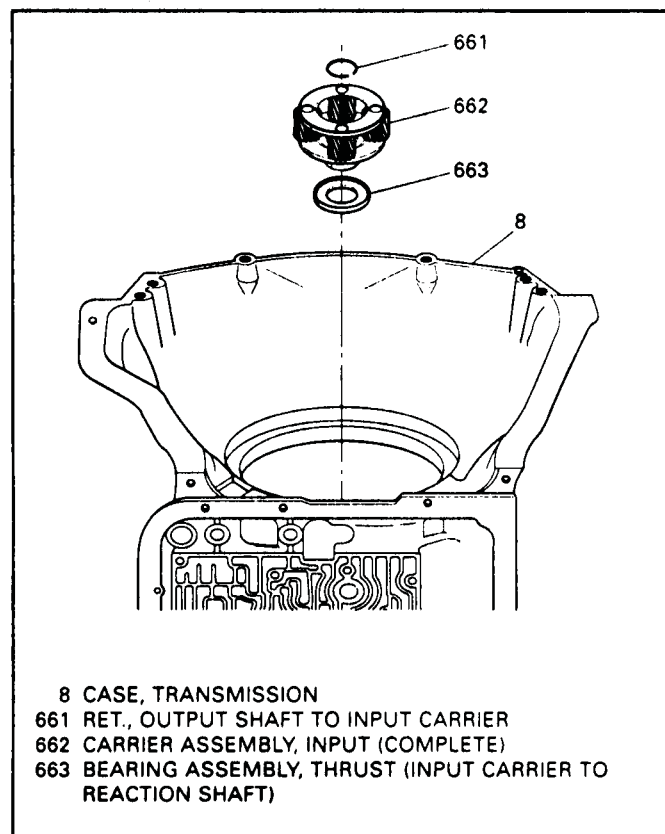

Figure 52
55. Remove the snap ring from the output shaft that is retaining the input carrier (See Figure 52).
57. Remove the input carrier and thrust bearing as shown in Figure 52.